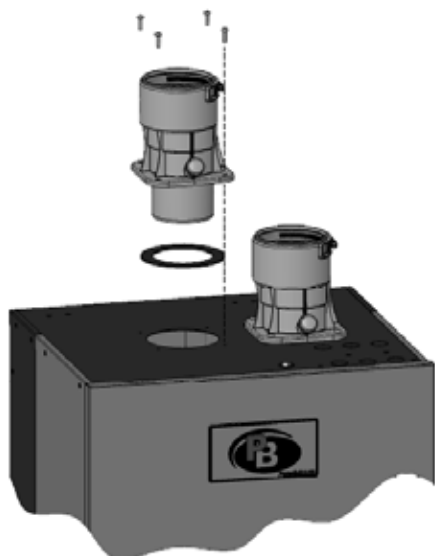

Figure 3.1: Exhaust and Air Intake Location and Installation
4. The Exhaust Vent and Air Intake adapters are provided loose inside of the boiler cabinet and must be installed securely using the provided screws and gaskets. See Figure 3.1 below for proper orientation.